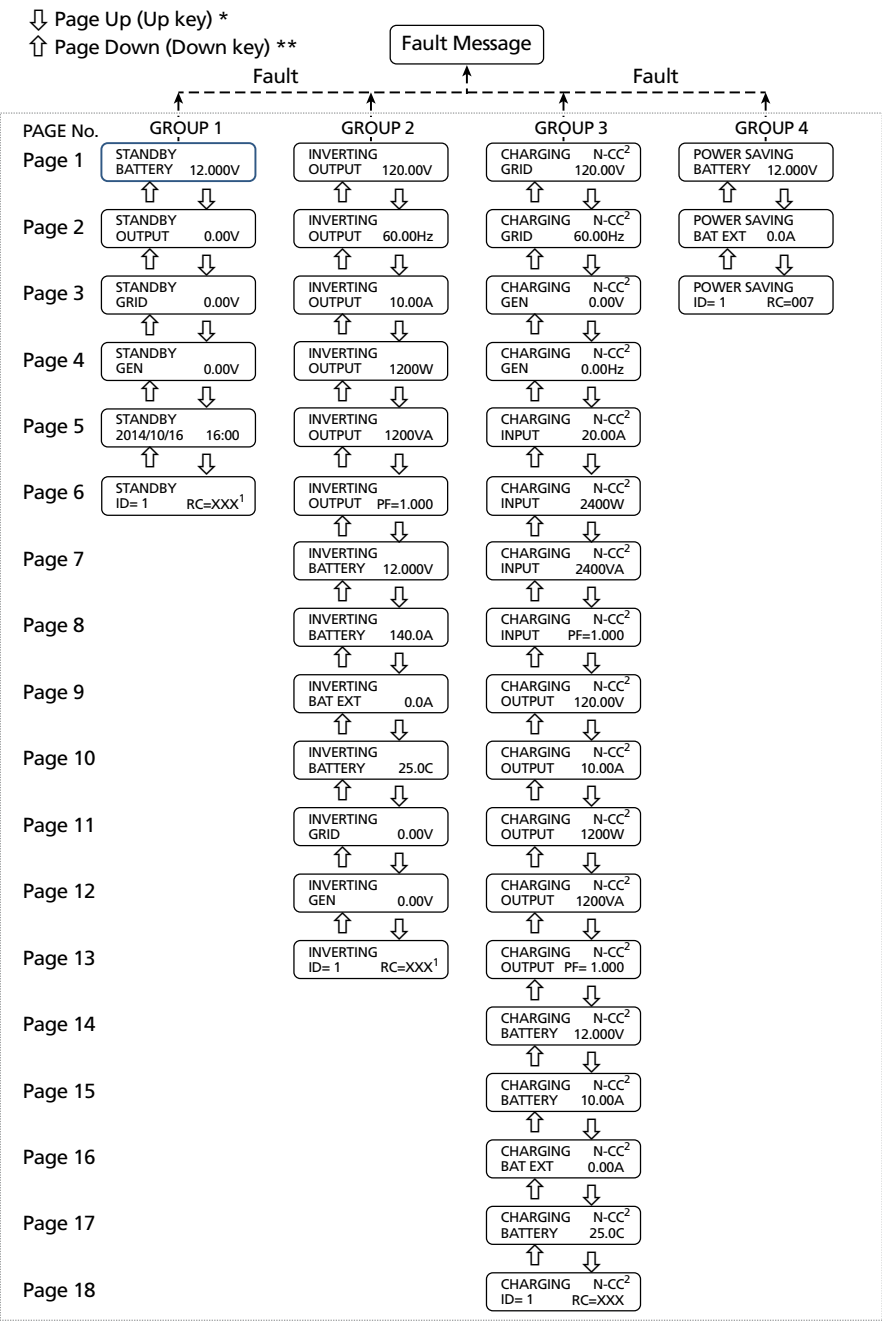
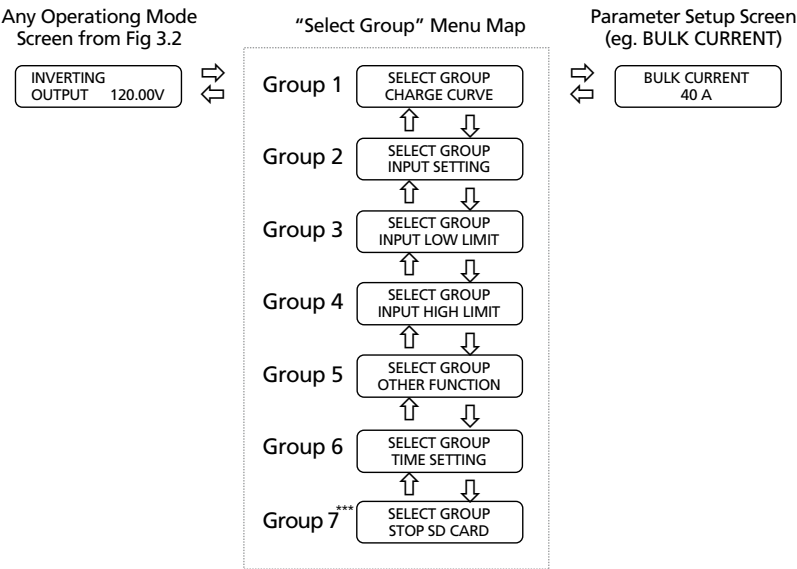

Fig 3.2 Overall Operating Mode Display Screen Menu Map
Fig 4.3 "Select Group" Menu Map and Example for Setting Bulk Current
Please refer to 18 Screens shown against Pages 1 to 18 under Group 3 "CHARGING" at Fig 3.2. The 1st line of the Display Screen for Charging Mode shows CHARGING on the left and abbreviated information format "Charging Mode - Charging Stage" on the right corner. The following abbreviations have been used:
For example, in Fig 3.2, the 1st line of information under Column 4 (Group 3) "Charging" shows "N-CC" in the right corner. This means that the unit is in Normal (N), 3-Stage Charging Mode and is in Constant Current (CC) Bulk Stage.
Overall Operating Mode Display Screen Menu Map is shown at Fig 3.2. Any screen within the Menu Map can be identified by 2 co-ordinates: "Group No." (Column) and "Page No." (Row).
NOTES FOR FIG 3.2:
The desired Parameter Setup Screen can be reached by navigating through the “Select Group” Menus as shown in the Select Group Menu Map at Fig 4.3.
Please refer to Fig 4.3 below.
The **Enter** key is used to enter Parameter Setup Mode from any Operating Mode Screen in Fig 3.2. Example in Fig 4.3 below starts with Inverting Mode Screen (Group 2, Page 1 in Fig 3.2). After the **Enter** key is pressed, the **Up/Down** keys are used to navigate to the different Parameter Groups (Groups 1 to 7). When the Group for the desired setting is displayed on the LCD, the **Enter** Key is used again to select this Group. The **Up** and **Down** Keys are used to move to the individual parameters within the Group.
Starting from any Operating Mode Screen (Fig 3.2), press **Enter** key and **Up/Down** Keys to select Group 1 "Charge Curve" screen from the "Select Group" Menu Map (Fig 4.3).